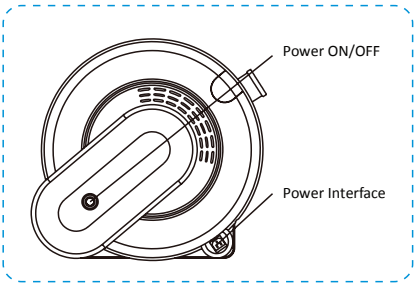

Figure 7.1.2
- ▶ One end of the power cord is plugged into the terminal board at the bottom support of the right side of the machine, and the other end into the socket of 1100V/60Hz with reliable grounding. See Figure 7.1.2.
- ▶ The power switch is located at the batter brace of the right side of the machine. See Figure 7.1.2. It is the on/off switch of the JorVet ICU Unit. When it is locked, all other keys are void; when it is unlocked, all other keys are valid.